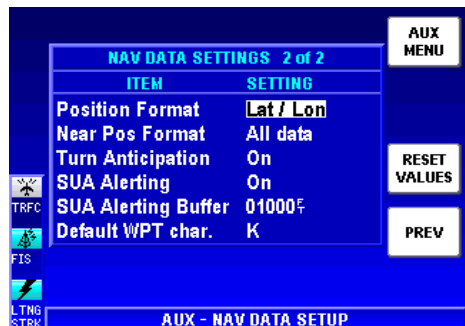

Figure 1-172
5. Press the **NEXT** Softkey to display the second **NAV DATA SETTINGS** Page as in Figure 1-172.